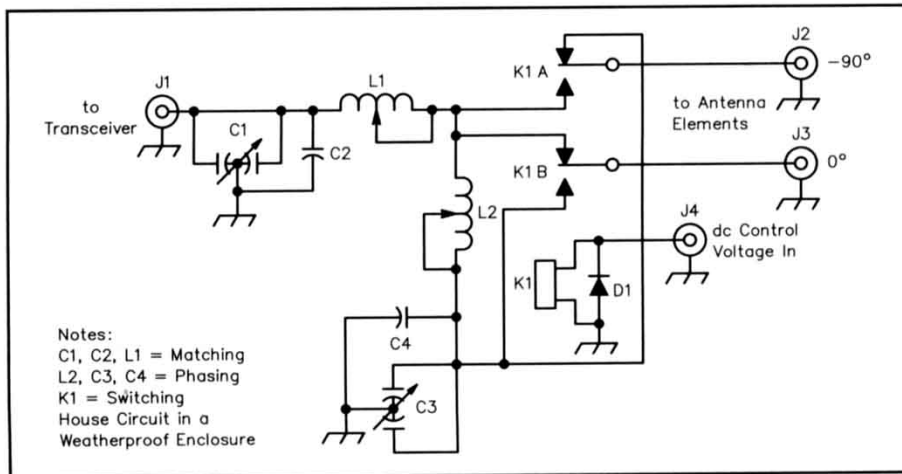

Figure 5—A schematic of the PM unit. Builders may substitute equivalent parts. RS indicates Radio Shack parts.
Figure 1—The author's half-square array system, as modeled. It is cut for the 40-meter CW subband. See text and Figure 5 for details of the phasing/matching unit.
Figure 5 shows the phasing/matching (PM) circuit. It is housed in a waterproof metal enclosure. The feed lines leave each element feedpoint (upper corner) horizontally, for as far as possible, then descend to the ground and along the ground to the PM unit. Coax connects the PM unit to the shack. Any handy two-conductor wire (say, #24 or larger—Ed.) is suitable for the dc that controls the switching relay.